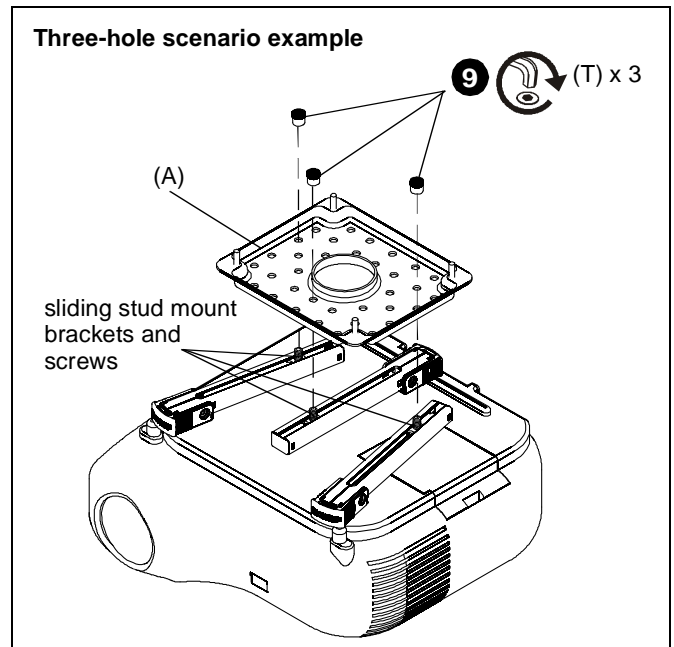

Figure 6
- Maneuver legs so that sliding stud mount brackets and screws are towards the middle of the projector. (See Figure 6) and (See Figure 7)
- Position sliding stud mount brackets and screws so that SLBU or SLMU main plate (A) can be evenly mounted to legs. (See Figure 6) and (See Figure 7)
- Use 1/4" hex key (U) to secure Allen nuts (T) to screws on sliding stud mounts. (See Figure 6) and (See Figure 7)